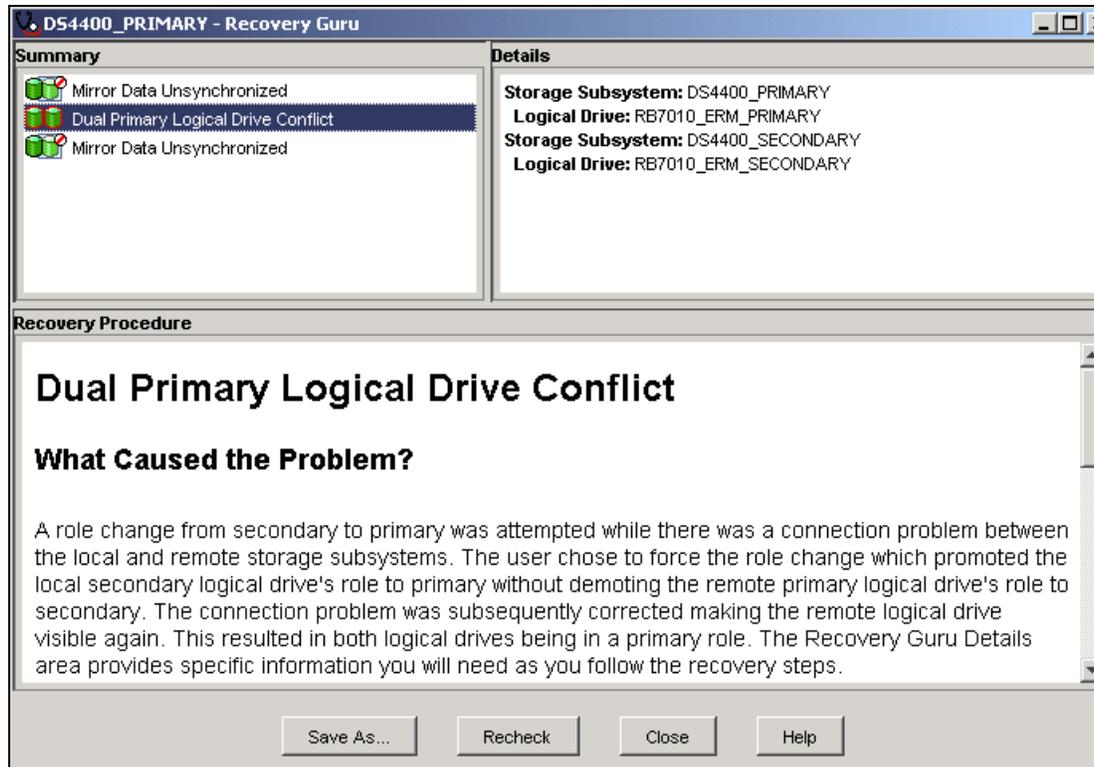

Figure 8-66 Recovery Guru: Dual primary logical drive conflict
1. Click the **Recovery Guru** to resolve the condition (Figure 8-66).